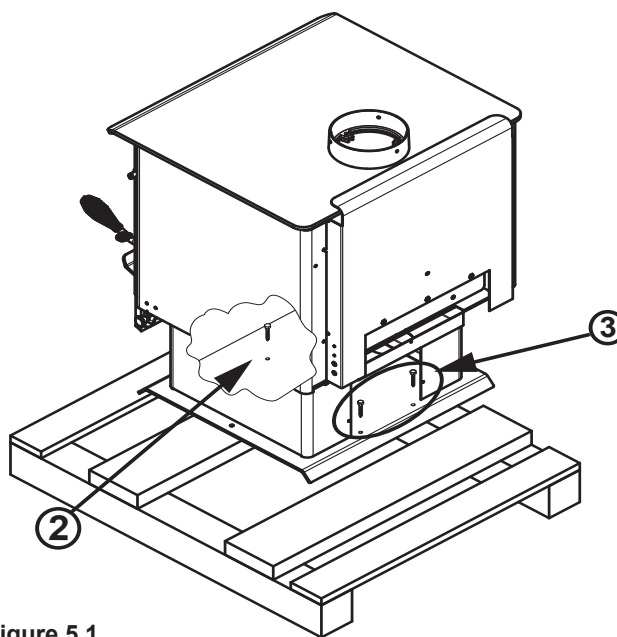

Figure 5.1
2. Using 7/16 socket or wrench remove one bolt located inside front part of appliance (**Figure 5.1**).
3. Moving to the back of the appliance and using 7/16 socket or wrench remove two bolts (**Figure 5.1**).